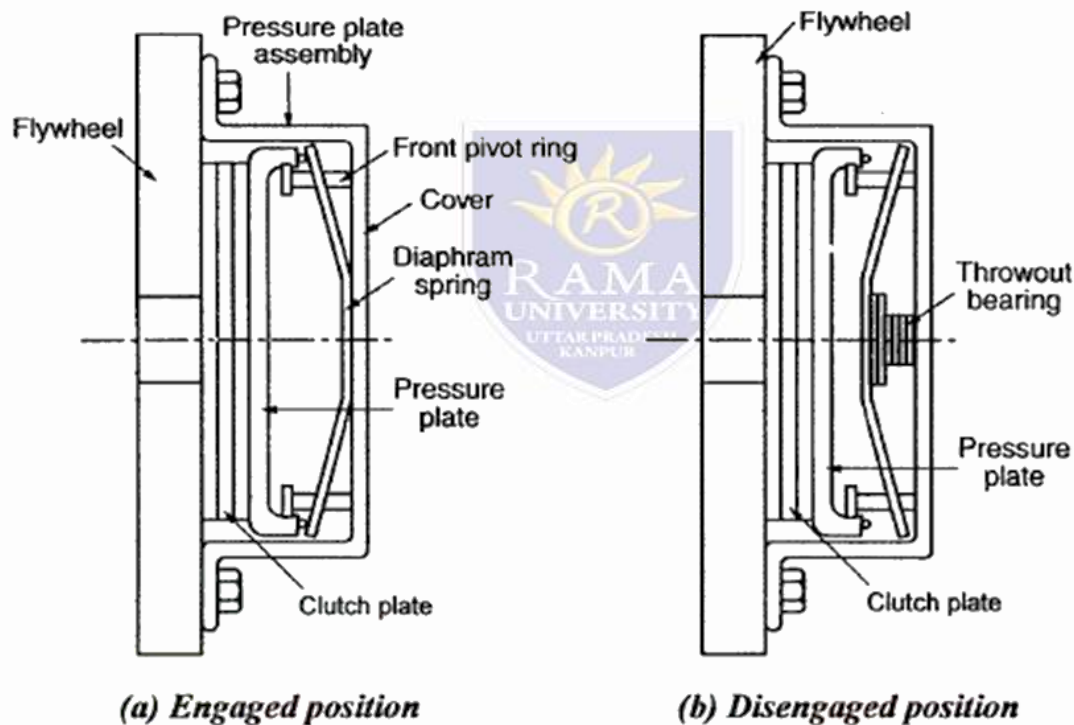

Figure 3.10 Diaphragm clutch
- Figure 3.10 shows the construction details of the diaphragm clutch. It consists of a diaphragm spring which is supported on a fulcrum retaining ring i.e. pivot ring so that any section through the spring can be regarded as a simple lever.